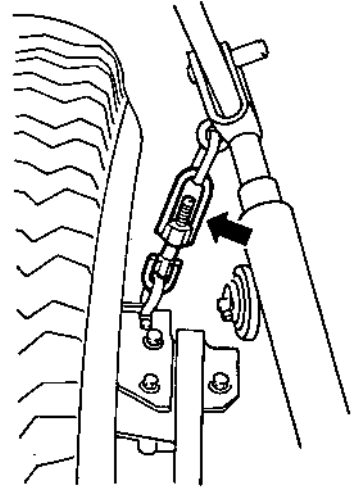

Fig. 16
- 6 Position the tiller to sit approximately in the center of the rear wheels and adjust the stabilizer check links to prevent excessive left to right sway Fig. 16.